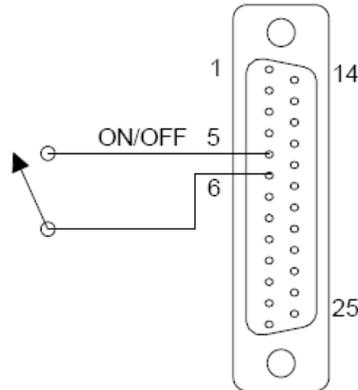

FIGURE 3.7 REMOTE OUTPUT ON/OFF CONTROL BY CONTACT CLOSURE
1. Remote output on/off by contact closure. Output is on when contacts (J1-5 and J1-6) are closed. See Figure 3.7 for connection requirements.